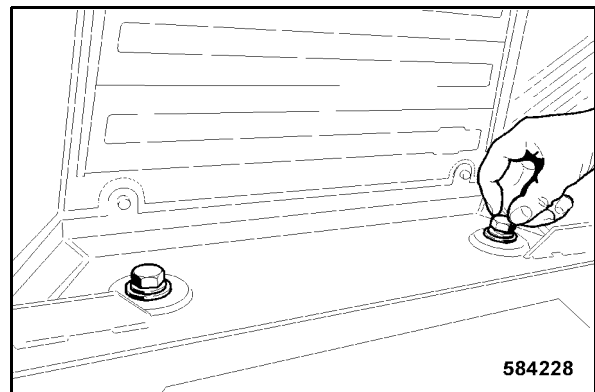

Fig. 214
- Loosen both fastening screws (Fig. 214) at the rear of the cabin again.
- Tighten both fastening screws (Fig. 214) at the rear of the cabin with 578 Nm.